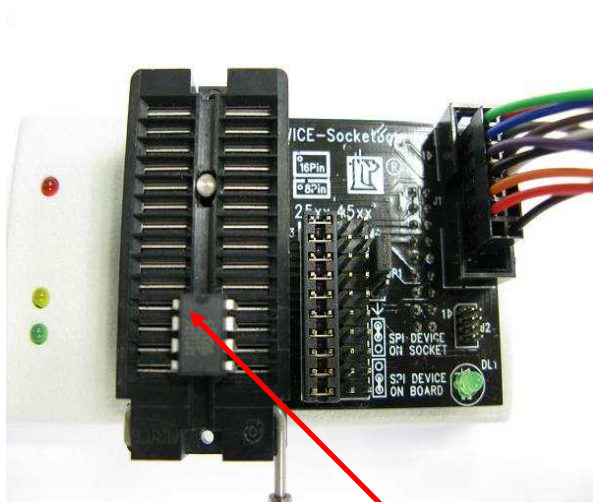

Figure 1.
1. DIP 8 Pin device: Refer to Figure 1 below.